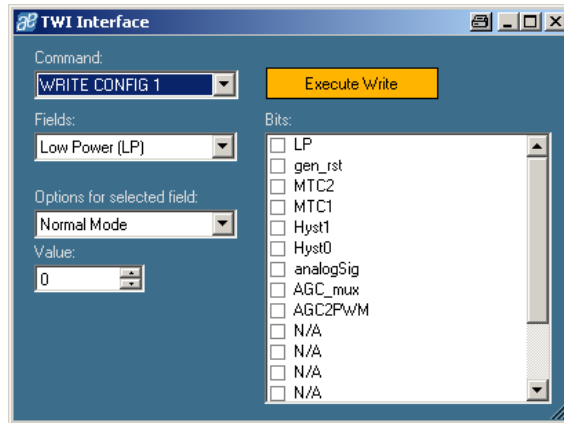

Figure 17: Communication command window
- Digital interface opens an additional window (see Figure 17), which provides all communications commands like WRTIE\_CONFIG or EN\_PROG (for entering the extended mode).